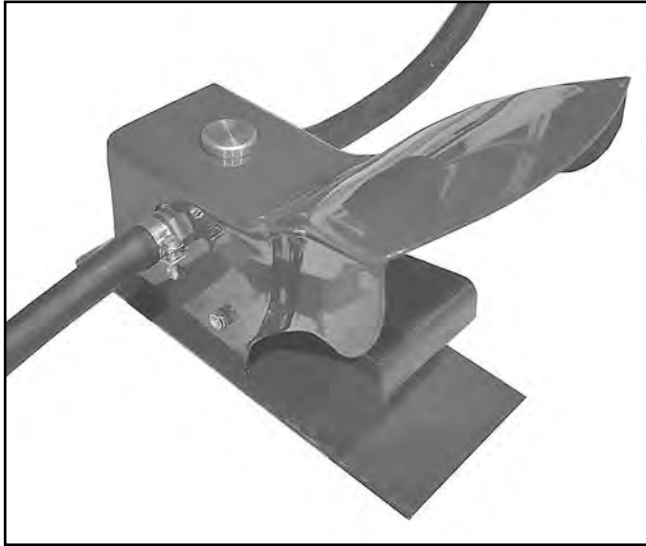

Figure 28. Blast gun ON/OFF control.
13. Slowly press on the foot pedal (see **Figure 28**) and move the blast tip in a slow circular motion. Abrasive media will begin spraying from the blast gun tip.